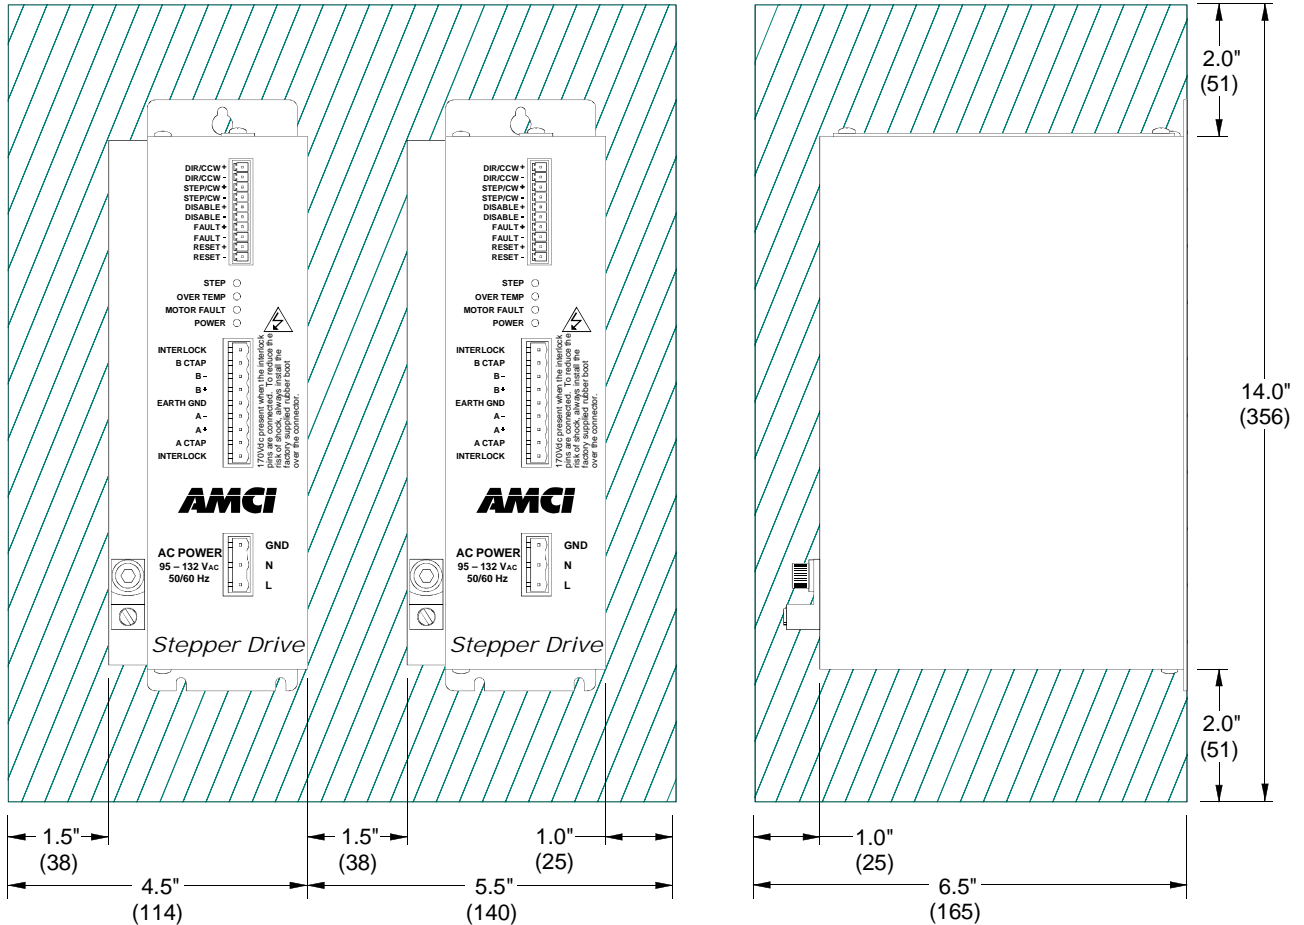

Figure 5.2 Mounting Clearance Dimensions
In order to assure proper convectional airflow around the SD17080, you must follow the clearance guidelines given in figure 5.2. If you don't have this amount of area around the drive, you may need to install a small fan below it to force air up through the drive.
- In order to dissipate heat correctly, the SD17080 must be mounted with the heat sink fins vertical, as shown in figure 5.2. A large amount of heat can also be dissipated through the back panel if the drive is securely mounted to a metal panel.
- If mounting the drive in an enclosure, you must make provisions for proper air flow. The clearance dimensions given in figure 5.2 should be sufficient for most applications, but a small fan mounted below the drive to force air through it may be needed if the ambient temperature is high or the enclosure is not ventilated.